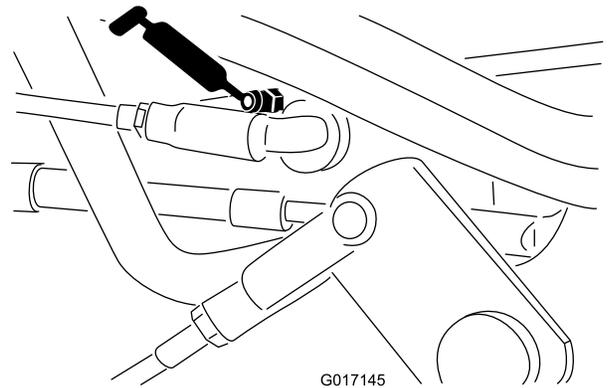
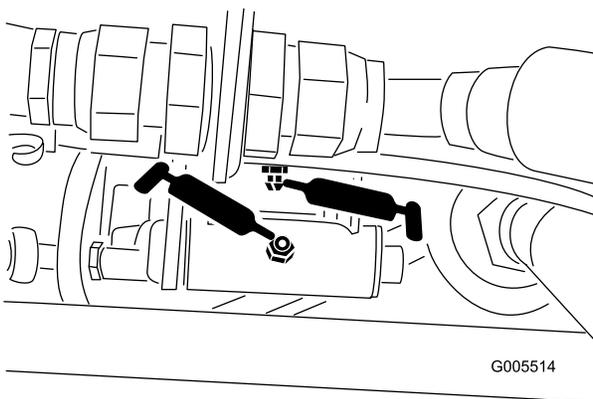

Figure 35
Figure 34
- Speed-selector linkage (Figure 34 and Figure 35)